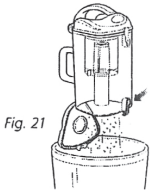

Fig. 21
- 2 Hold the dust cup over a trash receptacle and press the bottom door release button. (Fig. 21) Tap gently to empty contents. Press the door shut again until it clicks.